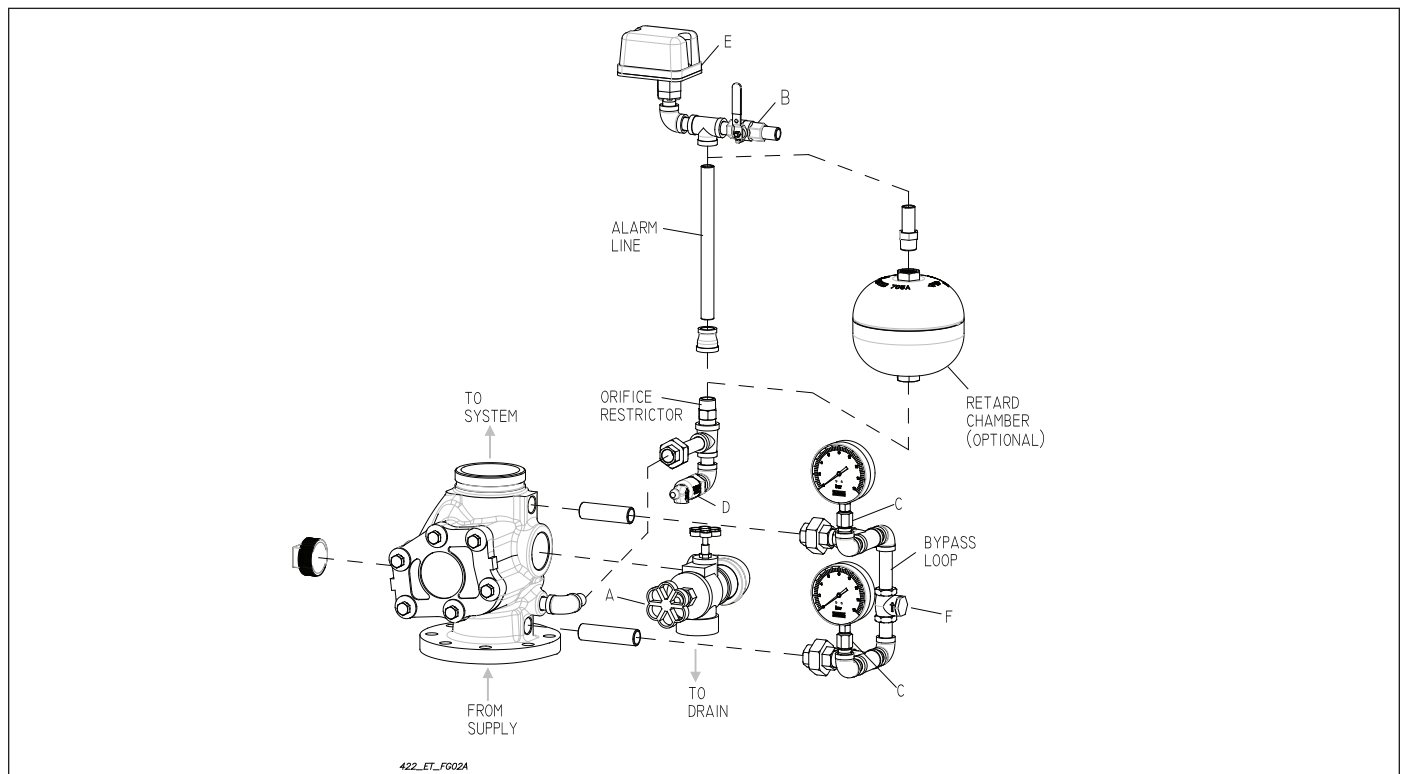

Fig. 2
Legend for Fig. 2
Flow of water in the system piping resulting from the discharge through one or more fused automatic sprinklers causes the clapper (4) to rise off the valve's seat (3) and permits water from the supply piping to enter the system. The movement of the clapper (4) on the hinge pin (8) uncovers the groove in Seat (3) and allows water to flow through the groove into the alarm line and to the retard chamber if installed. (Refer to Fig. 2).
1. The bypass line (Refer to Fig. 2) with check valve allows surges water supply to the system side of the alarm valve's clapper without lifting the clapper off its seat. Repeated surges build up an effective excess pressure in the system, which steadies the clapper and reduces false alarms.
Verify that all trim parts are installed according to Fig. 2 and that there are no leaks. Close the Test and Drain valve A, and the alarm shutoff valve B. Slowly open the main water control valve a few turns until water fills the sprinkler pipe system at a moderate speed. Check the piping system for leaks during and after the filling process. When both gauges in the trim indicate the preset operating pressure and the flow of water has stopped, fully open the main water control valve and secure it in this position. After this the pipe system must be vented carefully. Open the alarm shutoff valve B and drain any water present in the alarm line by depressing the plunger of the Ball Drip valve D.
- a. Drain the system by opening the Test and Drain valve A (Refer to Fig.2).
- b. Remove the cover (2), shaft pipe plug (14), hinge pin (8) and clapper assembly (4).
1. Replace the clapper assembly on the seat. Insert the hinge pin (8) in the valve and pass it through one of the bearings of the clapper. (4) Press and hold spring (13) securely in position between the clapper arm bearings and push the clapper arm shaft through the spring coils to the far side of the valve - Replace the shaft pipe plug (14).
3. Replace the cover (2), being sure that the cover gasket (11) is in position and bolts and nuts are securely tightened.
4. Close the Test and Drain valve A (Refer to Fig. 2) Slowly open and seal the main water control valve. Be sure that valve B is sealed in open position.
False alarms are generally caused by pressure surges in the water supply and can occur if the system loses its effective excess pressure (Refer to the “System Setup” section). A visual indication of this condition is given by similar readings on the system and supply pressure gauges. Loss of system pressure can occur as a result of: a leaking test and drain valve, leakage at the alarm valve's brass seat, leakage between the valve's clapper and its mating rubber facing, leakage at any pipe joint downstream in the sprinkler system, or leakage at the bypass check valve. (Refer to Figs. 2 & 3).
In order to find and correct a leak through the bypass check valve, proceed as follows (Refer to Fig. 2):